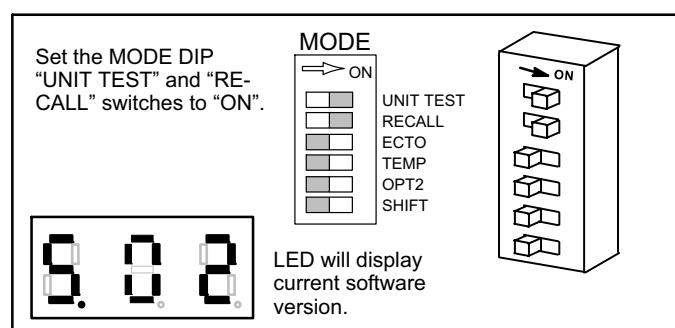

Figure 4. Check Software Version and Address
- Set the MODE DIP "UNIT TEST" and "RECALL" switches to "ON". See figure 4.